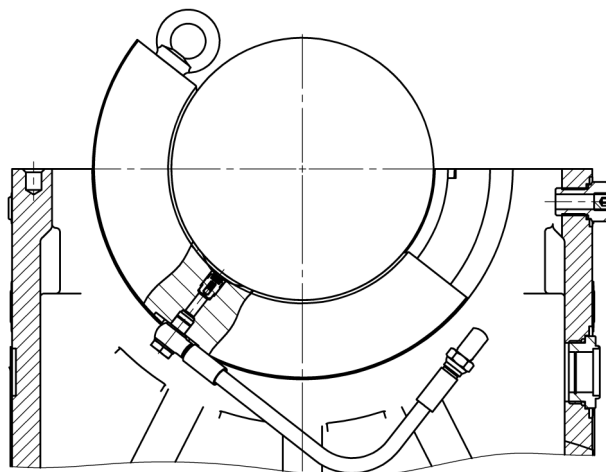

Fig. 61
- Lower part of bearing shell can be taken out sidewise (Fig 61).